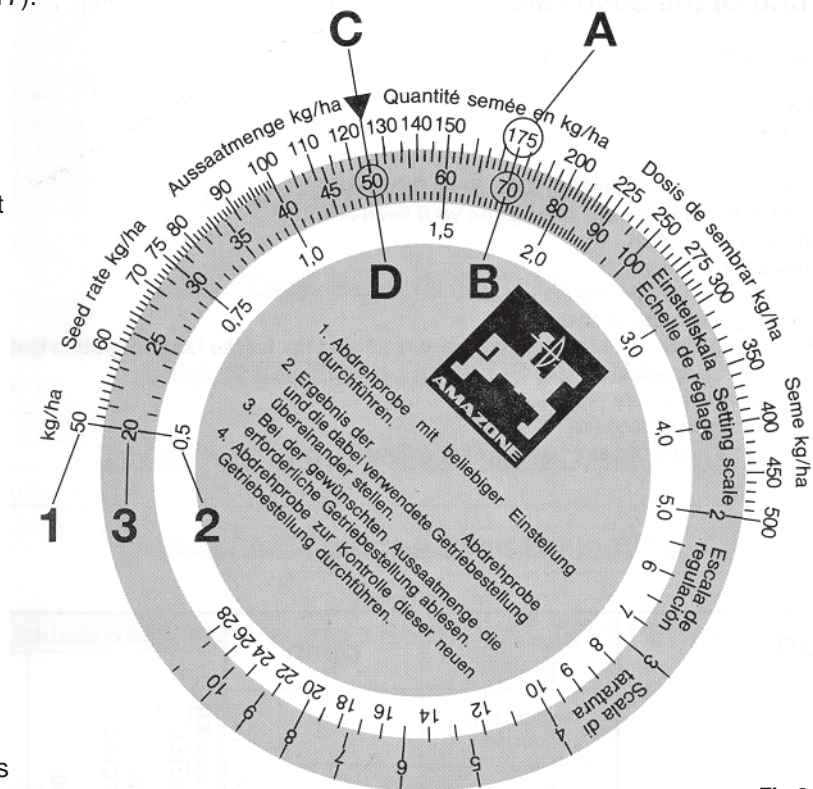

Fig 9
Usually the first calibration test yields a different seed rate. However with the value determined from the first test it is possible to determine the correct gearbox setting with the aid of the enclosed disc calculator (Fig 9). The disc calculator consists of 3 scales. An outer white scale (1)
- 2 Turn the inner disc until the measured seed rate of 175kg/ha (A) is in line with the related actual gearbox setting of "70"(B) (Fig 9).
- 3 Read off from the disc rule the necessary gearbox setting for the required seed rate of 125kg/ha (C). In this example the correct setting is "50" (D) (Fig 9).